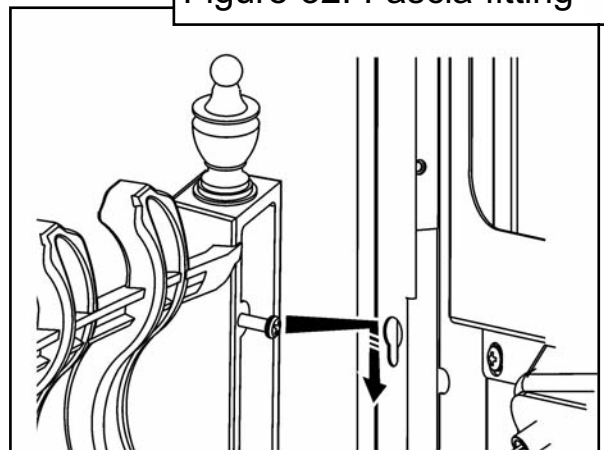

Figure 33.
- Fit the fire front casting between the fascia sides. Locate the two screw heads at the rear top corners of the casting through the keyhole slots at the inner sides of the fascia. If the screw heads do not project enough or project too far, the screws can be adjusted. Lower the casting so that it rests on the hearth (See figure 33).